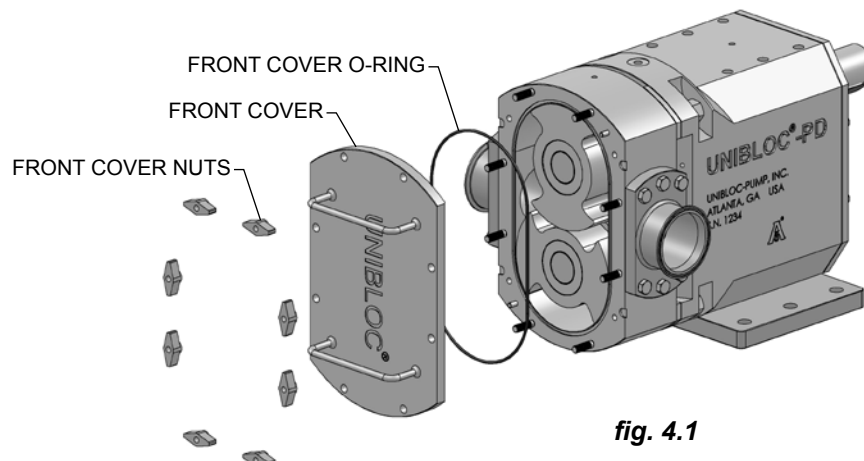

fig. 4.1
Remove the **Front Cover Nuts**, **Front Cover**, and **Front Cover O-ring** (see fig. 4.1).
4.4.1.4.0 FoodFirst Front Cover Removal (reference figs. 4.1, 4.4.1)
Remove the **Front Cover Nuts** (see fig. 4.1). Carefully remove the **FoodFirst Front Cover**, taking caution not to damage the **Wear Rings**. The **Rotor Wear Rings** may adhere to the **Front Cover Wear Rings** and dislodge from the **Rotors** during **Front Cover** removal. Store any loose wear rings in a safe place.
4.4.2.1.1 Single Mechanical Seal Removal- MODELS: PD600, PD650, PD675 (reference figs. 4.1, 4.5)
4.4.2.1.2 Single Mechanical Seal Installation- MODELS: PD600, PD650, PD675 (reference figs. 4.1, 4.5, 4.15)
4.4.2.2.1 Single Mechanical Seal Removal- MODELS: PD602, PD652, PD677 (reference figs. 4.1 , 4.6)
4.4.2.2.2 Single Mechanical Seal Installation- MODELS: PD602, PD652, PD677 (reference figs. 4.1, 4.6, 4.15)
4.4.3.1.1 Double Mechanical Seal Removal (reference figs. 4.1, 4.7)
4.4.3.1.2 Double Mechanical Seal Installation (reference figs. 4.1, 4.7, 4.15)
4.4.4 Triple O-Lip® Seal- MODELS: PD600 to PD677 (reference figs. 4.1, 4.8)
4.4.4.1 Triple O-Lip® Seal Removal (reference figs. 4.1, 4.8)
4.4.4.2 Triple O-Lip® Seal Installation (reference figs. 4.1, 4.8, 4.15)
4.4.5.1.1 Double O-Ring Seal Removal (REAR LOADED)- MODELS: PD600, PD650, PD675 (reference figs. 4.1, 4.9)
4.4.5.1.2 Double O-Ring Seal Installation (REAR LOADED)- MODELS: PD600, PD650, PD675 (reference figs. 4.1, 4.9, 4.15)
4.4.5.2.1 Double O-Ring Seal Removal (FRONT LOADED)- MODELS: PD600, PD650, PD675 (reference figs. 4.1, 4.9, 4.10)
4.4.5.2.2 Double O-Ring Seal Installation (FRONT LOADED)-MODELS: PD600, PD650, PD675 (reference figs. 4.1, 4.9, 4.10, 4.15)
4.4.5.3.1 Double O-Ring Seal Removal- MODELS: PD602, PD652, PD677 (reference figs. 4.1, 4.11, 4.12)
4.4.5.3.2 Double O-Ring Seal Installation- MODELS: PD602, PD652, PD677 (reference figs. 4.1, 4.9, 4.11)
4.4.6 Seal Installation- Final Steps (reference fig. 4.1, 4.13, 4.15, 4.27)